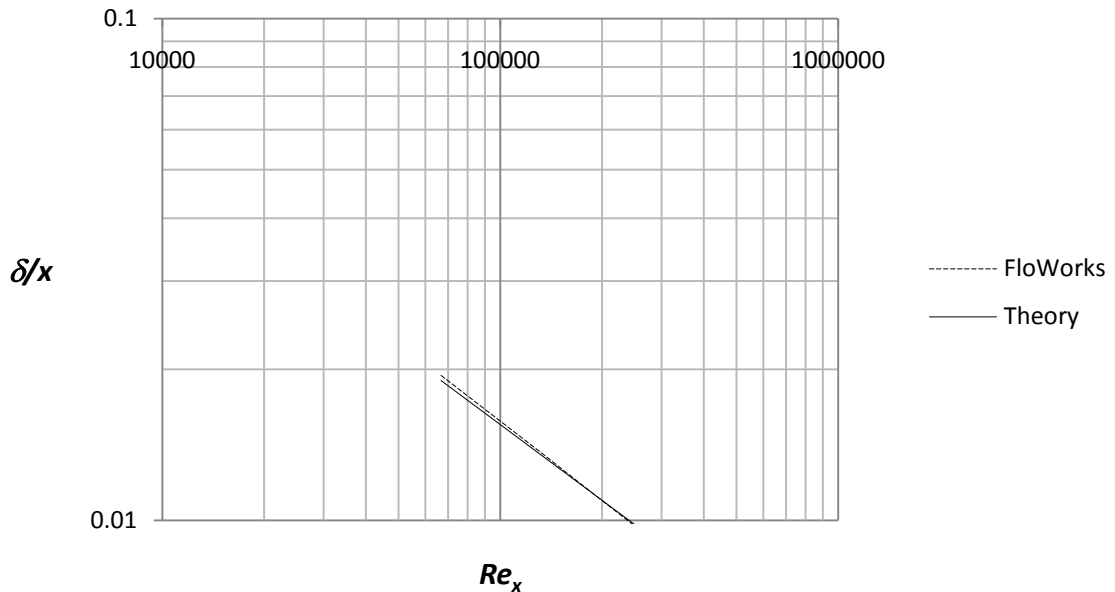

Figure 2.25b) Comparison between FloWorks and theory on boundary layer thickness
27. Place the file “xy-plot figure 2.25b)” into the **Local Disk (C:)/SolidWorks/COSMOSFloWorks/FloWorks/lang/english/template/XY-Plots** folder to make it available in the **Template** list. Repeat step 24 and select the new template for the XY-plot as shown in figure 2.25b). Rename the xy-plot to **Boundary Layer Thickness**.